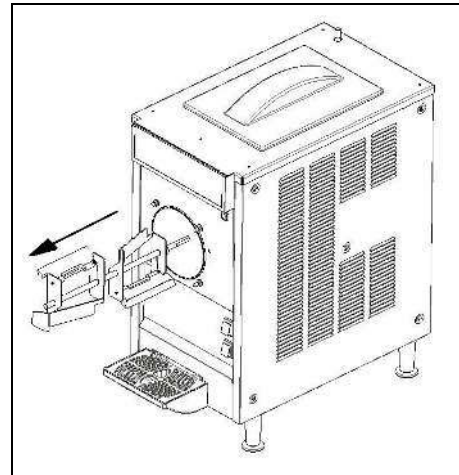

Fig. 18
- Extract the beater and all components mounted on it (fig. 18).